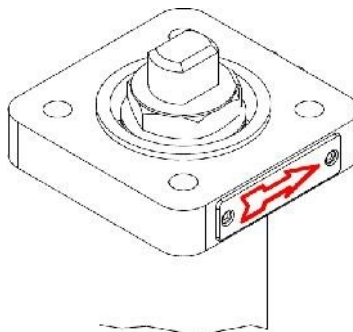

Figure 1. Arrow plate – Doesn't always indicates the direction of the flow
**2.1.1.** Microfinish cryogenic ball valves are unidirectional; valve installation shall be in the direction indicated by the arrow mark attached to the body and bonnet (Refer Figure1). The arrow indicates the High pressure (HP) side, at its tail, and the low pressure (LP) side, at the arrow head. The arrow direction does not always indicate the normal direction of cryogen flow; on the contrary, in most applications the valve should be installed with the arrow pointing in the opposite to the normal direction of cryogen flow. To clarify this issue, the high pressure side should be specified when the flow stops and the valve is in its closed position; **Although it may seem trivial, Microfinish has found this to be a very common error in industry which causes double the work, a waste of raw materials, and even a safety concern.**